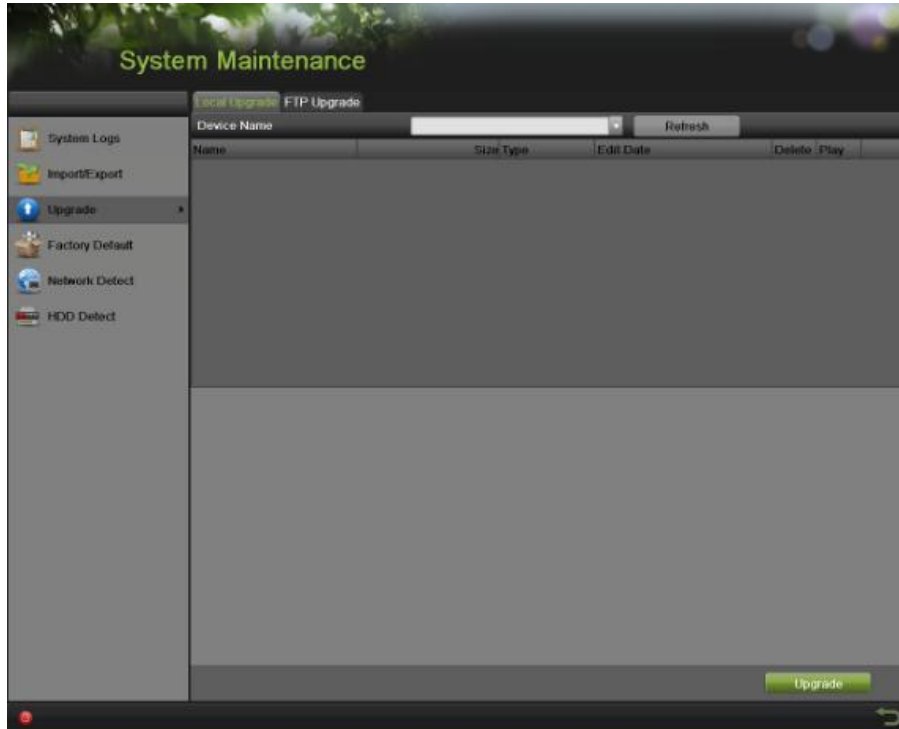

Figure 169 Local Upgrade Menu
2. Select the Local Upgrade tab, as shown in Figure 169.